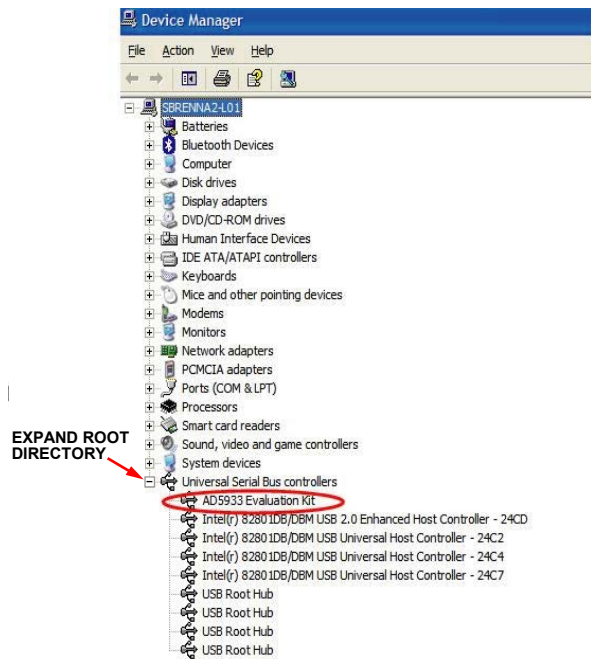

Figure 19. Correctly Installed Hardware
3. Scroll to **Universal Serial Bus controllers** and expand the root directory (see Figure 19). When the **AD5933** hardware is correctly installed, each time the USB cable connecting the evaluation board to the computer is plugged in, the items within the **Universal Serial Bus controllers** are refreshed.
Figure 19 shows what to expect when the **AD5933** evaluation board is correctly installed and when the evaluation board and USB cable are connected correctly to the computer. The root directory is subsequently refreshed when the USB cable is unplugged from evaluation board, and the **AD5933** evaluation kit icon is removed from the main root.
5. Proceed through the installation wizard a second time. The expanded root directory shown in Figure 19 is a correct installation. If the same error message is encountered the second time, uninstall the device driver, uninstall the software, and contact Analog Devices applications support at www.analog.com for further instructions regarding valid driver files.